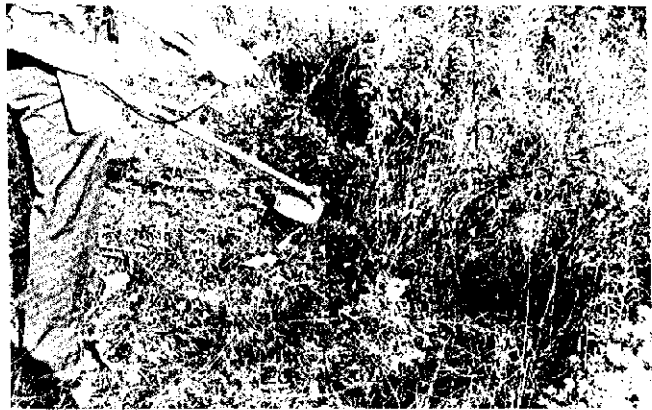

Fig. 16
1. Install the eight (8) tooth 8" blade.
2. Observing all precautions as listed in this manual, start the engine and using full throttle, swing the blade in an arc as you move forward slowly. The cutter rotates counterclockwise and the debris will be pushed backwards so the work area will always be visible. See Fig. 16